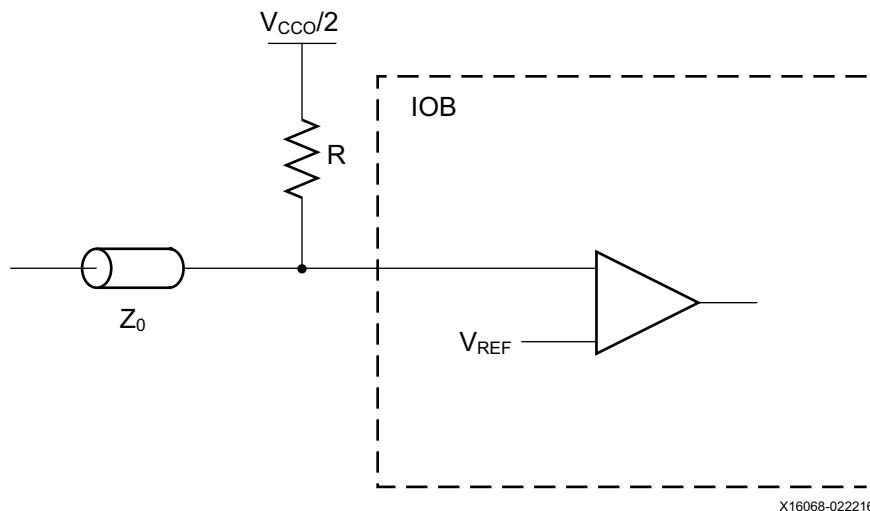

Figure 1-10: Input Termination to $V_{CCO}/2$ without DCI (where $R = Z_0$)
Some I/O standards (HSTL and SSTL) require an input termination resistance (R) to a V_{TT} voltage of $V_{CCO}/2$ (see Figure 1-10).